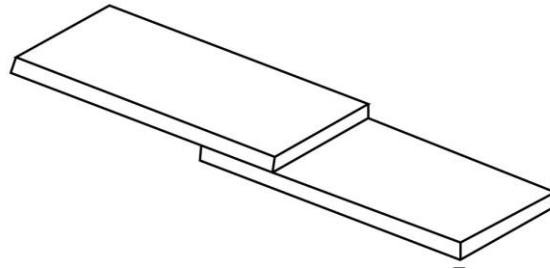

Fig. 6
- 6 Figure 6 below shows a drawing of two pieces of 6mm thick metal.